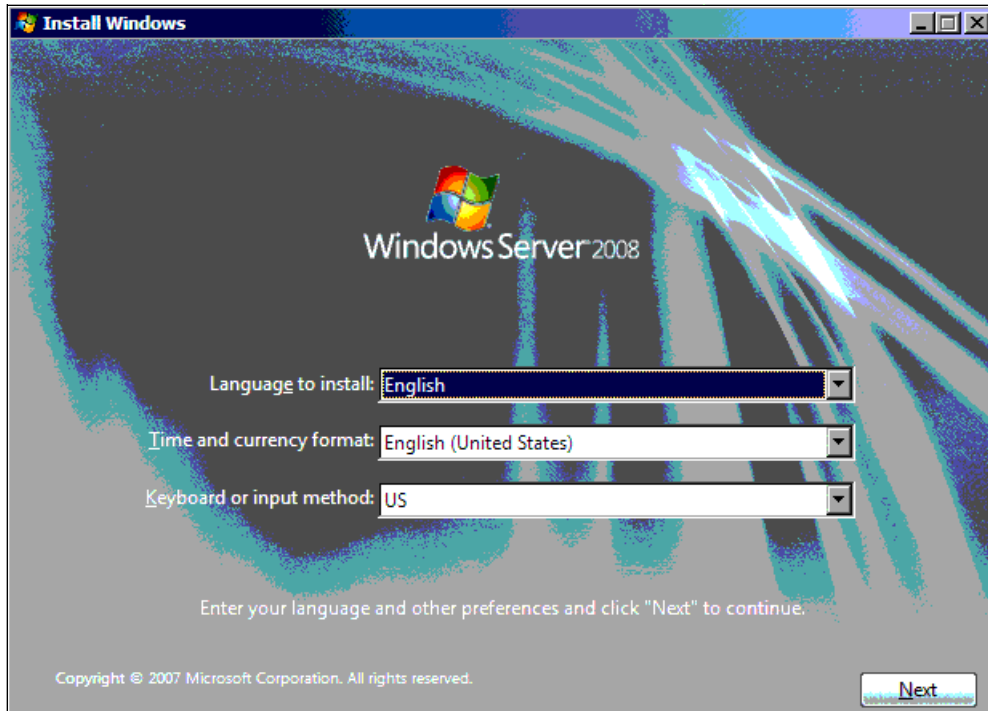

Figure 6-1 Windows regional settings window
2. On the “Windows regional settings” panel (Figure 6-1), set your locale, and click **Next**.